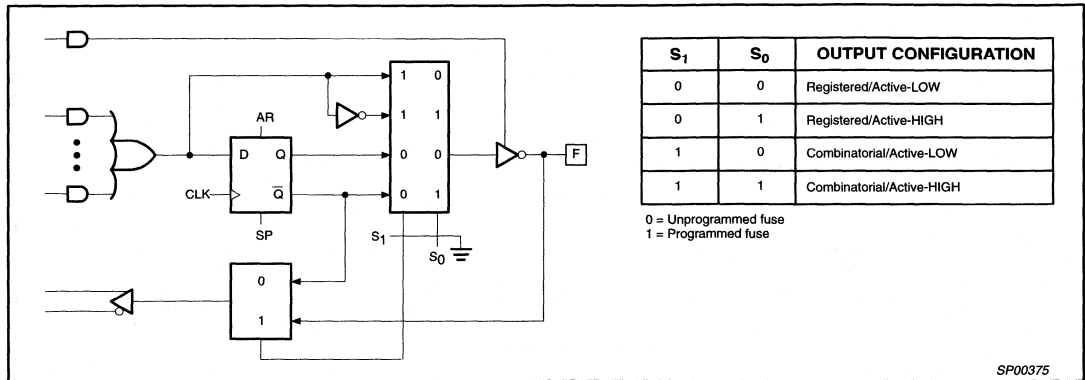

Figure 2. Output Macro Cell Logic Diagram
registered output or combinatorial I/O, Active-HIGH or Active-LOW (see Figure 2). The configuration choice is made according to the user's design specification and corresponding programming of the configuration bits S_0-S_1 . Multiplexer controls are connected to ground (0) through a programmable fuse link, selecting the "0" path through the multiplexer. Programming the fuse disconnects the control line from GND and it floats to V_{CC} (1), selecting the "1" path.